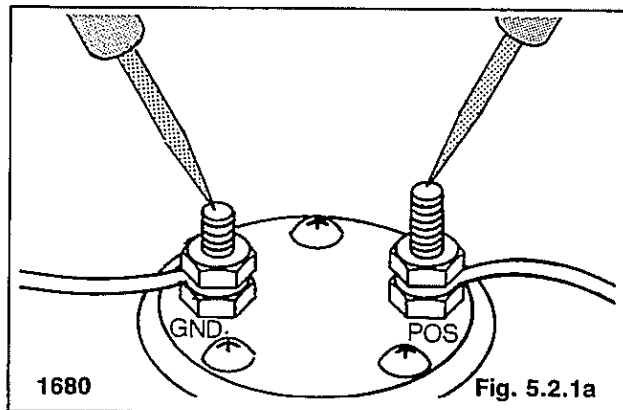

Fig. 5.2.1a
1. With the key switch off, connect one ohmmeter lead to the ground terminal of the fuel sender (Fig. 5.2.1a). Connect the other ohmmeter lead to the positive terminal of the fuel sender.